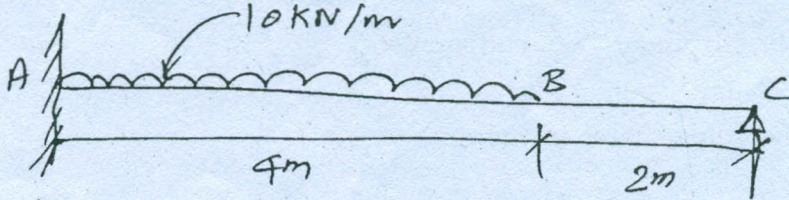

Fig. Q. 12 (a)
- (ii) A piece of material is subjected to two perpendicular stresses f_1 (tensile) and f_2 (compressive). Find an expression for the strain energy stored per unit volume. If a stress of 128 N/mm² acting alone gives the same value of strain energy as per the expression already found, find the value of f_2 when $f_1 = 112$ N/mm². Take $1/m = 0.30$. (8)
12. (a) A cantilever ABC is fixed at A and propped at C is loaded as shown in fig. Q. 12 (a). Find the reaction at C. (16)